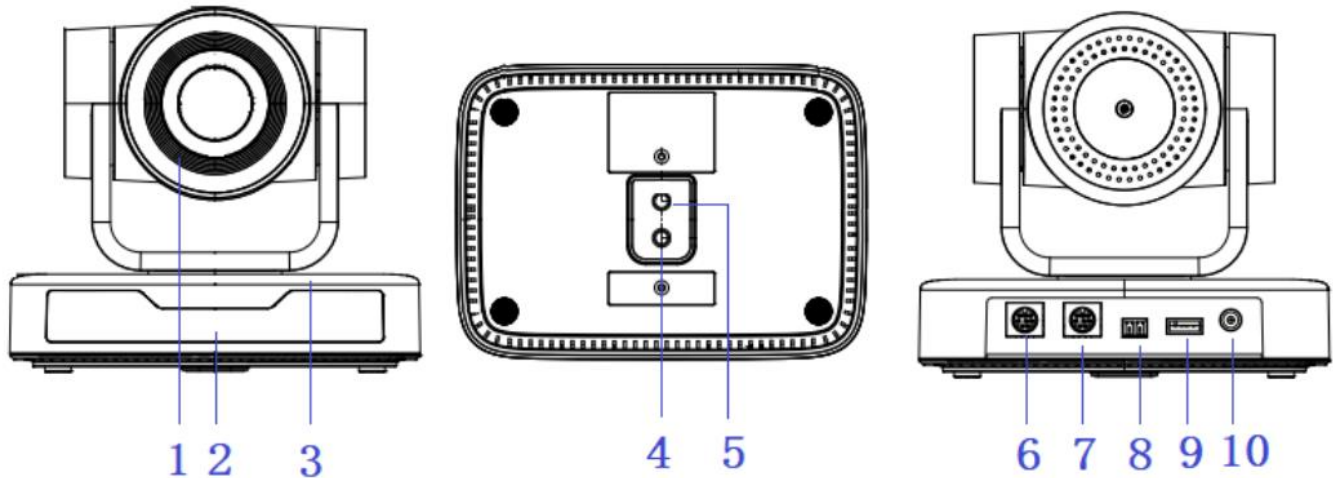

Figure 1.1 Product Interfaces
- A. USB 2.0 video cable connection: as shown in Figure 1.1 label 9